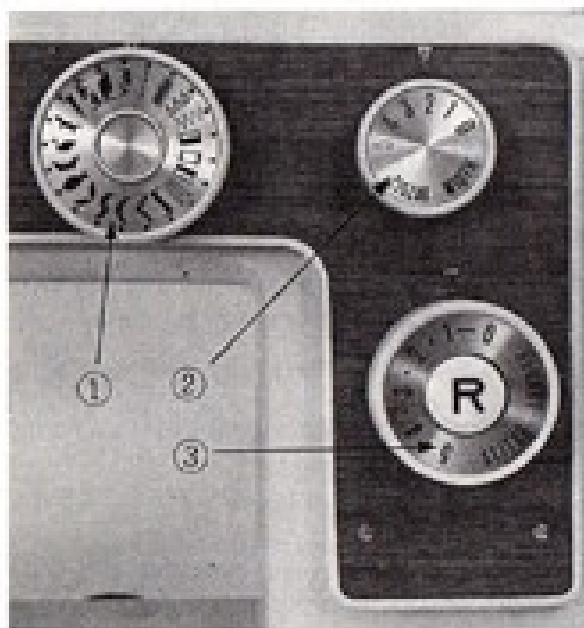

Fig. 27
3. In choosing a pattern, turn the decorative stitch pattern dial ( ① , Fig. 27). Turn the decorative stitch pattern dial until you get the desired pattern.
4. For best results align "5" position on the zigzag width control dial ( ② ) with the indicator and set the stitch length control dial ( ③ ) to "½" ~ "2".